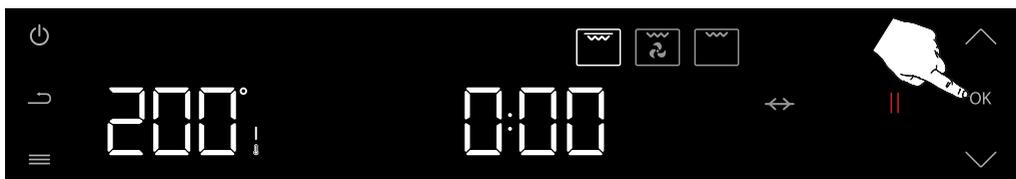

Figure 61
Press the confirmation button (OK) once to confirm the selection of the rotisserie function. (see figure 61)